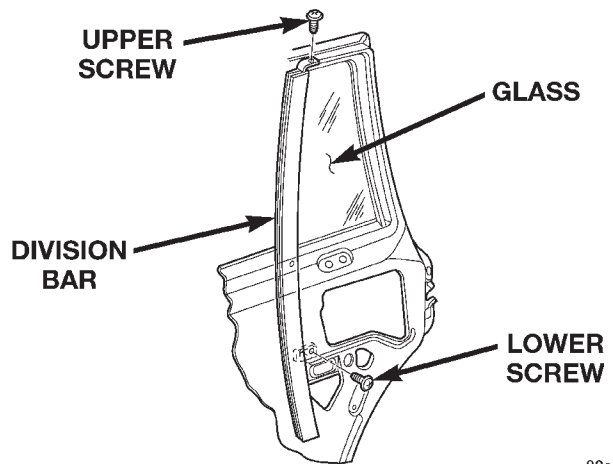

Fig. 60 Division Bar/Stationary Glass
- (1) Lower the window glass.
- (2) Remove the trim panel.
- (3) Remove the waterdam.
- (4) Remove inner and outer beltline weatherstrip.
- (5) Remove the window weatherstrip from the door.
- (6) Remove the division bar/stationary glass (Fig. 60).
- (7) Remove the window glass screw, bushing and retainer from the regulator.
- (8) Remove the window glass from door.